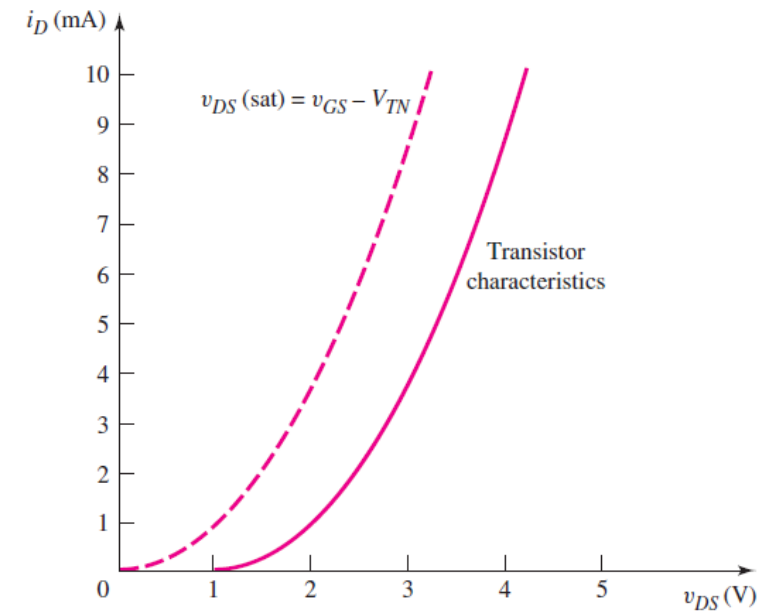

Figure 3.35 Current–voltage characteristic of an enhancement load device
- Figure 3.35 shows a plot of the Equation above for the case when  $K_n = 1\text{mA}/\text{V}^2$  and  $V_{TN} = 1\text{V}$ .